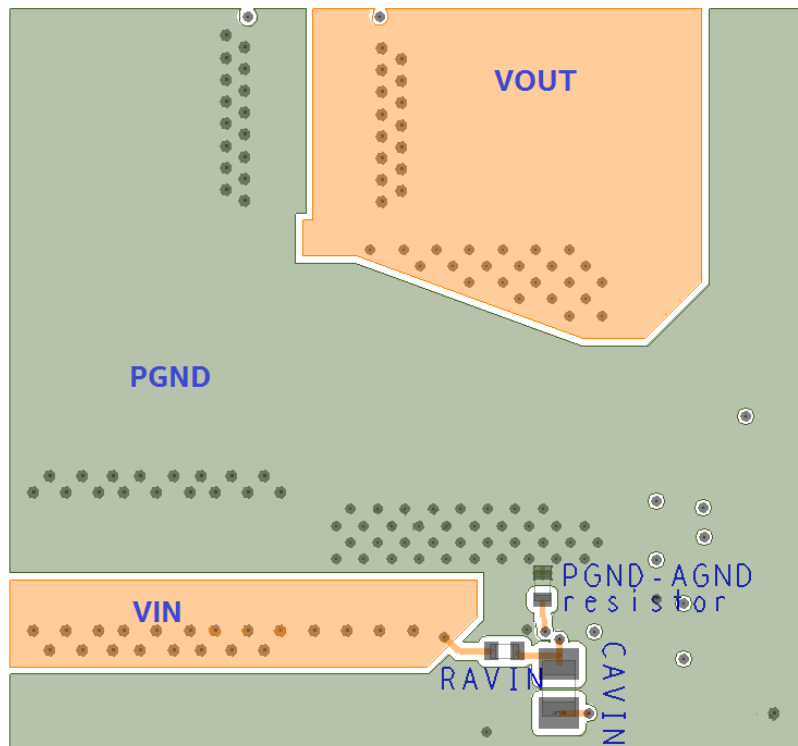

Figure 13: Bottom Layer
**Recommendation 6:** AVIN is the power supply for the internal small-signal control circuits. It should be connected to the input voltage at a quiet point through a RC circuit (RAVIN and CAVIN). In Figure 13 this connection to RAVIN is made at the input capacitor close to the VIN connection on the input source side. Avoid connecting AVIN near the PVIN pin even though it is the same node as the input ripple is higher there.